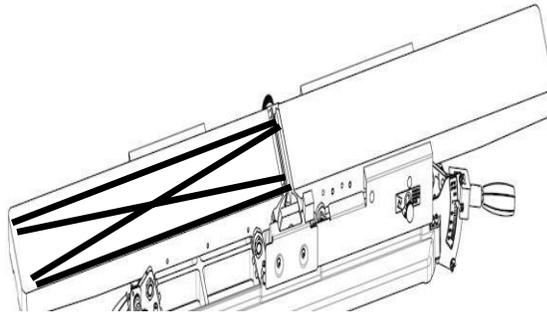

Figure 33: Checking Infeed Table
STEP 5: Place a straight edge in positions shown in FIG. 33 to make sure outfeed table is parallel with the cutterhead.